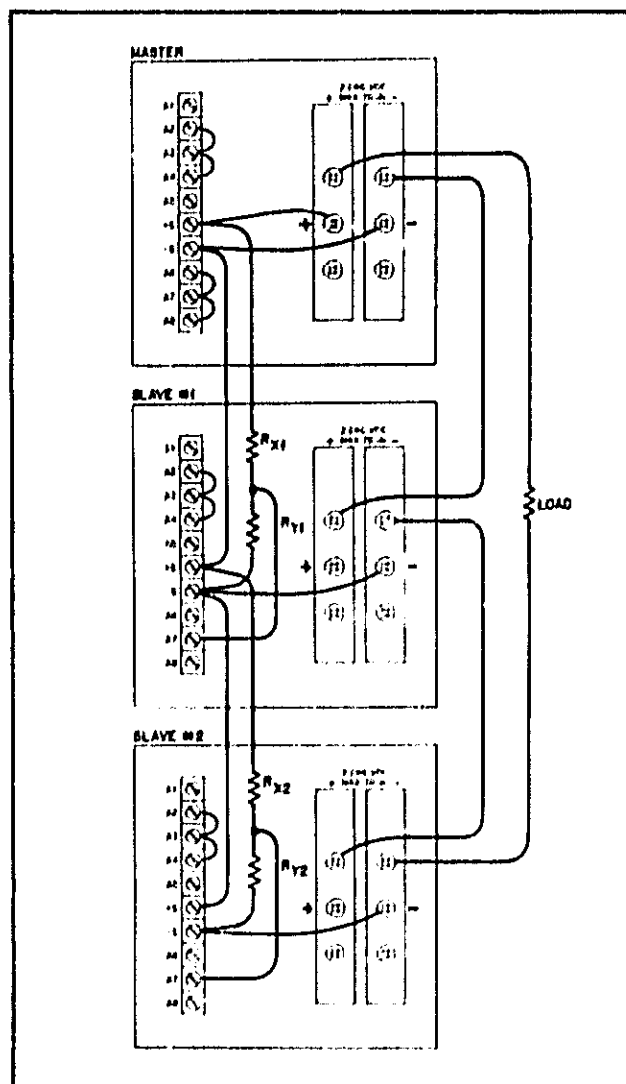
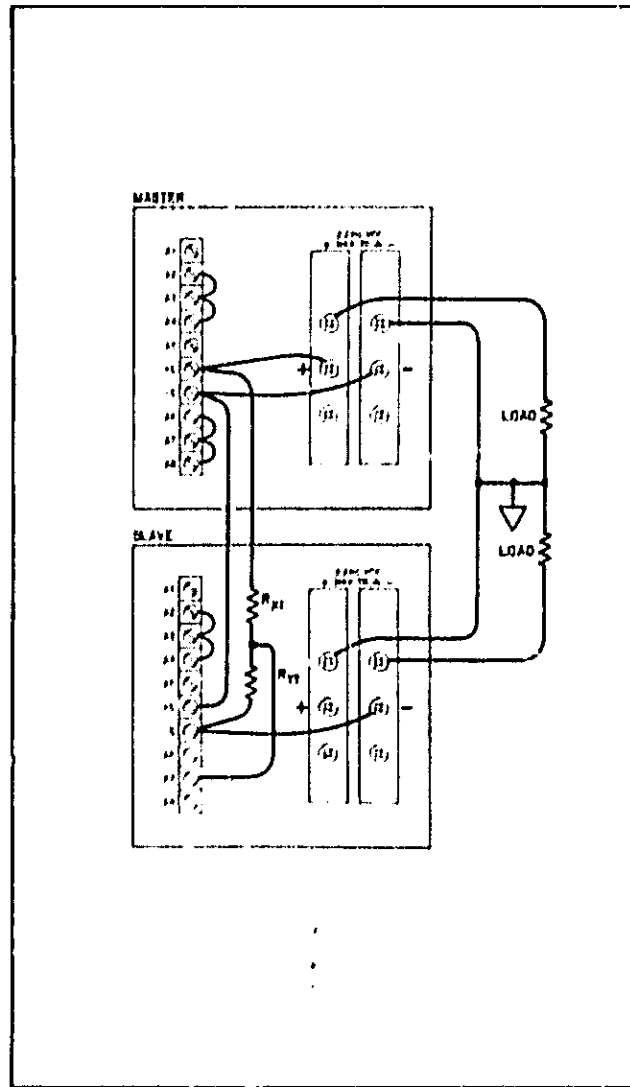

Figure 3-15. Auto-Series Operation
Figure 3-16. Auto-Series Operation, Positive and Negative Outputs
**3-68** Figures 3-15 and 3-16 show the rear-panel interconnections required to operate two or more supplies in auto-
series. This mode of operation provides a greater voltage capability than can be obtained from a single supply. As many as four supplies can be connected in auto-series in the configuration shown in Figure 3-15, and as many as eight supplies can be connected if the power supply combination and load are center-tapped as in Figure 3-16 (with no more than four supplies on each side of the center tap). Either configuration allows all the supplies to be programmed simultaneously by the voltage and current controls of the master supply. The master supply must always be the one at the positive end of the series combination. Any point of the output can be grounded if desired, as long as no other point in the output is more than 240 volts (including output voltage) from ground.
3-71 In applications in which coordinated positive and negative voltages are required, center tapping the supply combination and load as shown in Figure 3-16 allows simultaneous proportional control of both supply voltages.